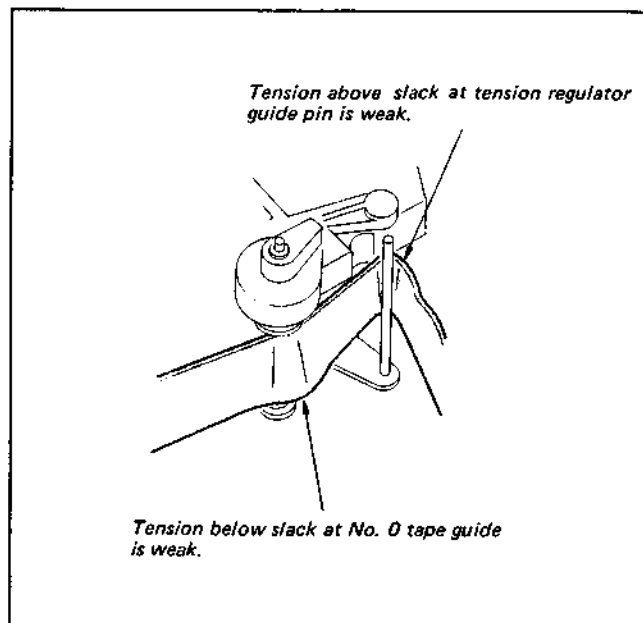

Fig. 3-13. Replacement and adjustment (3) of tension regulator arm plate assembly
4. Confirm that there is not a large bending of the tape at each of the tension regulator guide pin section and the No. 0 guide section shown in Fig. 3-13 after the completion of the adjustment. If the bending is found, repeat Step 3.